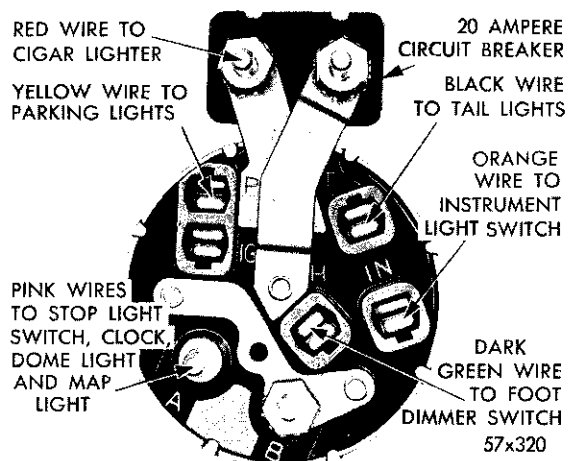

Fig. 36—Headlight Switch (Rear View)
62. HEADLIGHT SWITCH (FIG. 36)